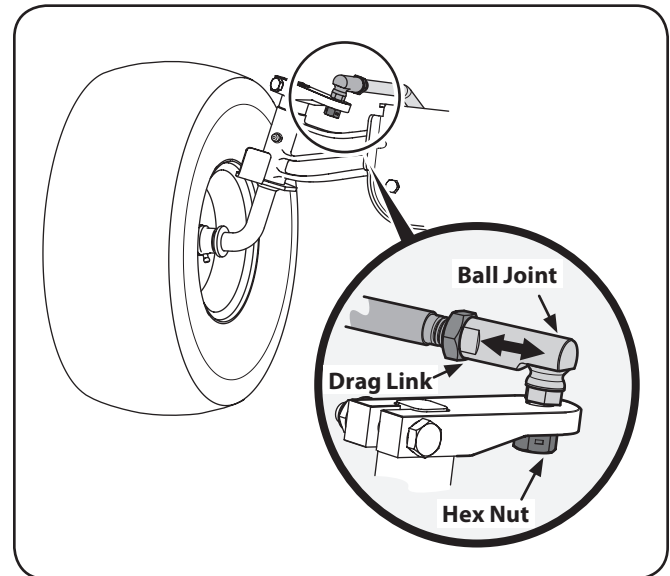

Figure 6-7
1. Remove the hex nut below the ball joint. See Fig. 6-7.